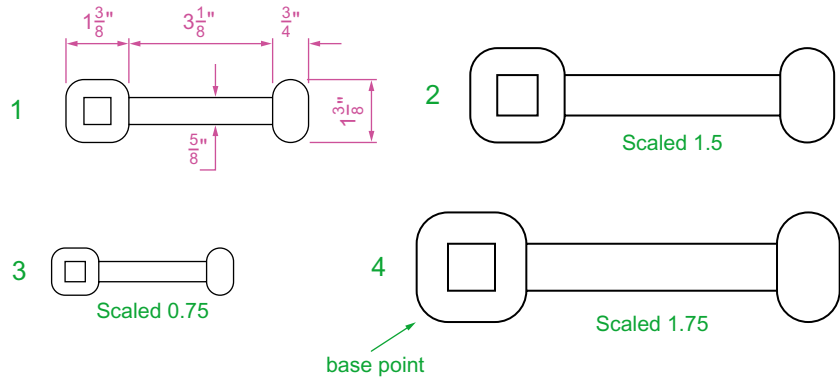

Fig. 5.29 Examples – Scale
Examples – Scale (Fig. 5.29)
1. Using the **Rectangle** and **Polyline** tools, construct drawing **1** of Fig. 5.29. The **Rectangle** fillets are R10. The line width of all parts is **1**. Copy the drawing 3 times to give drawings **2**, **3** and **4**.
The results are shown in Fig. 5.29.